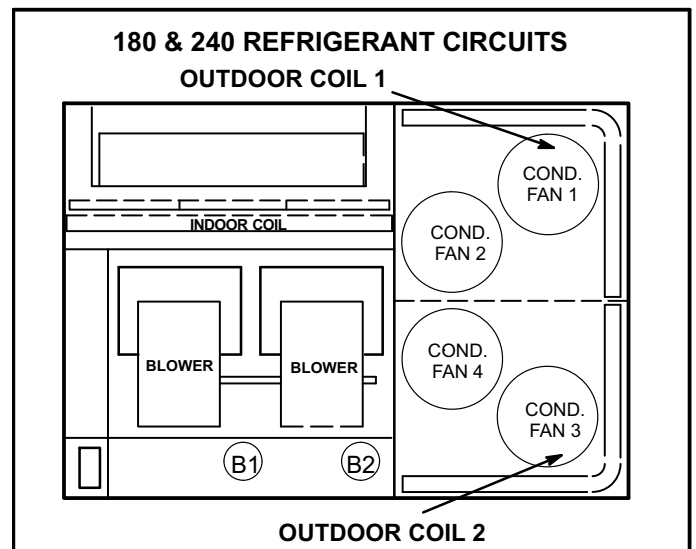

FIGURE 16
- 4- Units contain two refrigerant circuits or systems. See figure 16.